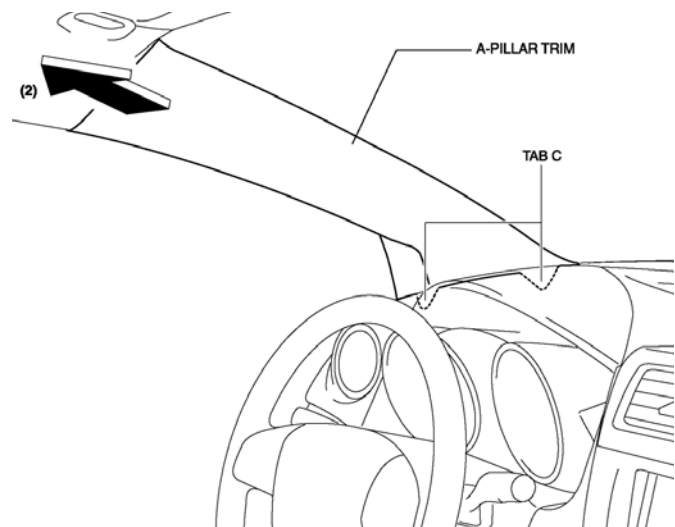

FIGURE 27
- 3.) PULL THE A-PILLAR TRIM IN THE DIRECTION OF THE ARROW (2) AND REMOVE THE A-PILLAR TRIM WHILE DETACHING TAB C. (SEE FIGURE 27)